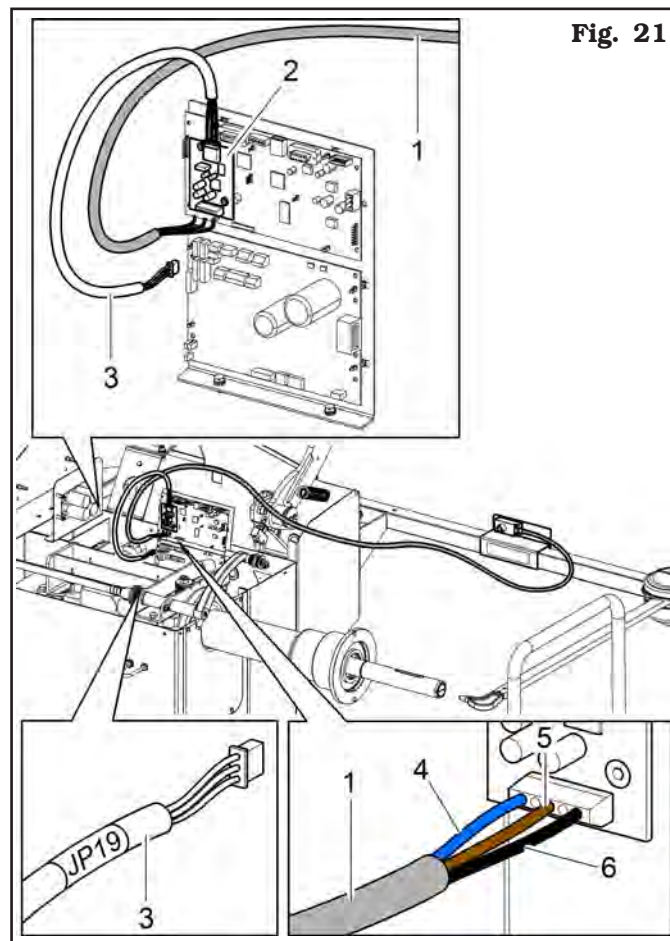

Fig. 21
5. Mount the card (**Fig. 21 ref. 2**) (# 18363), as shown in **Fig. 21**.
6. Connect connector of GAR214TK cable (**Fig. 21 ref. 1**) to the electronic card (**Fig. 21 ref. 2**) (# 18363), as shown in **Fig. 21** (blue **ref. 4 cable**, brown **ref. 5 cable** and black **ref. 6 cable**). Connect GAR214TK card (**Fig. 21 ref. 2**) (# 18363) to the wheel balancer main card, using the supplied cable JP19 (**Fig. 21 ref. 3**). Carry out the connection as shown in **Fig. 21**.